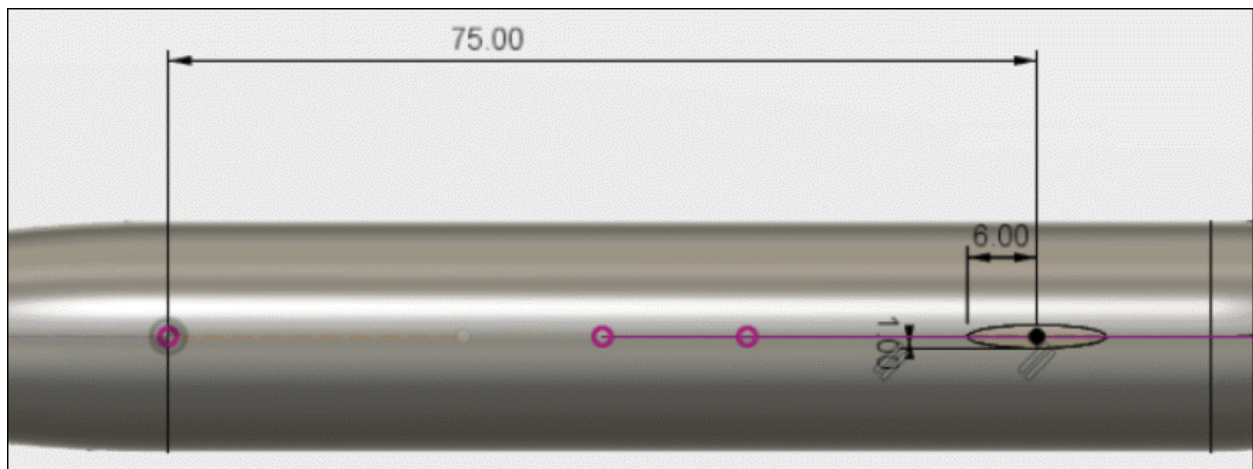

Figure-47. Creating ellipse
- Create the ellipse on current plane as shown in Figure-47.